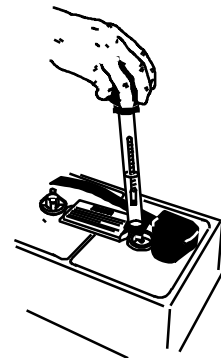

FIG. 25
1. Check the specific gravity using a hydrometer to determine the charge level and the condition of the batteries (Figure 25). If one or more of the battery cells read lower than the other battery cells (0.050 or more), the cell is damaged, shorted, or is about to fail. Check the hydrometer readings against the following chart to determine the remaining battery charge level.